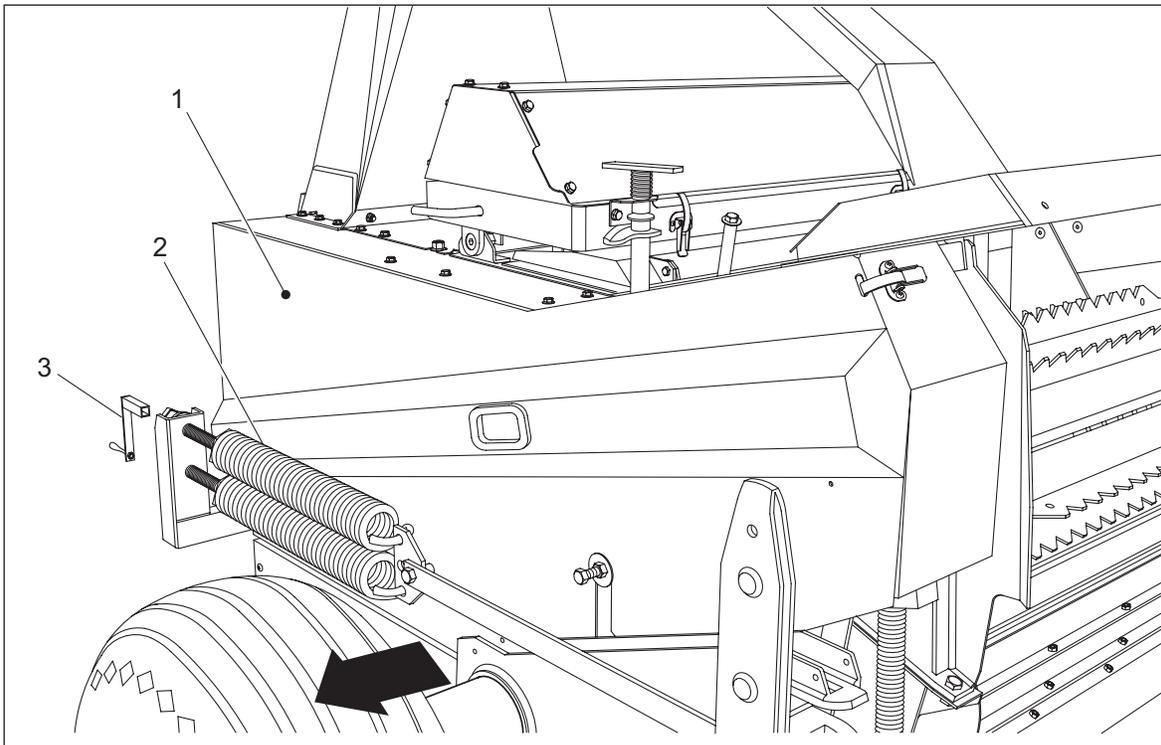

Figure 79
ÉTAPE 1 - FIGURE 79
ÉTAPE 2 - FIGURE 79